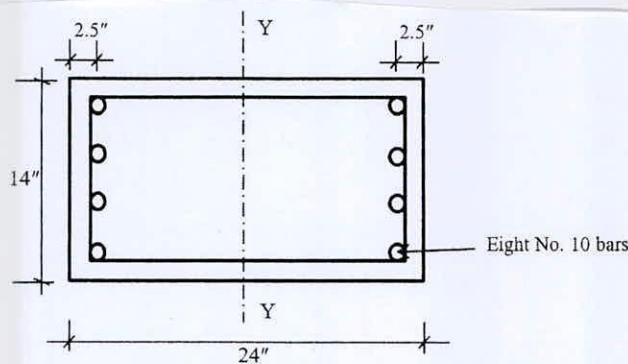

Fig. 1.
1. (a) A 14" × 24" inch column is reinforced with Eight No. 10 bars as shown in Fig. 1. Construct the nominal strength interaction diagram for the column by calculating (not using chart) five points corresponding to pure axial load, pure bending, balanced condition $\varepsilon_s = \varepsilon_y$, $\varepsilon_s = 0$ and $\varepsilon_s = 0.005$ (tensile). Also find corresponding ϕ for the above points. Assume bending about Y-Y axis. Given: $f'_c = 4$ ksi, $f_y = 60$ ksi and $E_s = 29 \times 10^3$ ksi. (20)